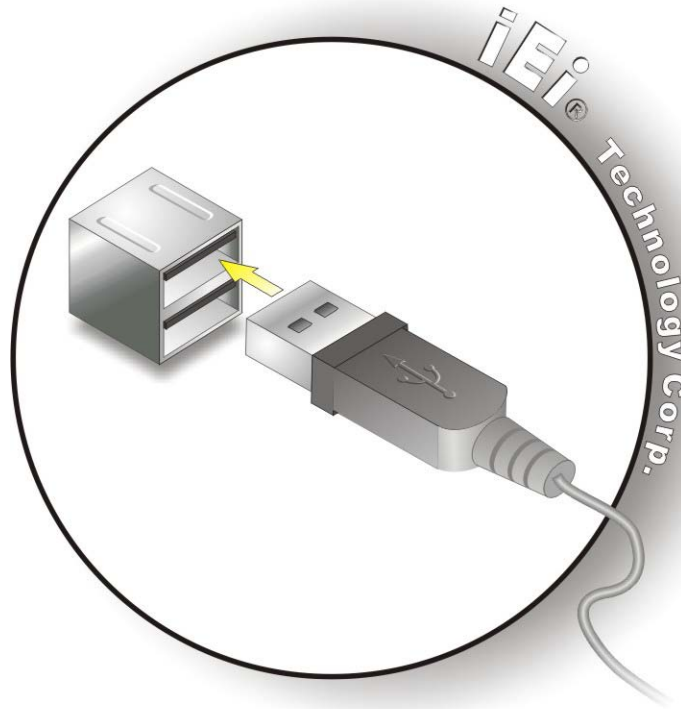

Figure 3-16: USB Device Connection
Step 2: Align the connectors. Align the USB device connector with one of the connectors on the external peripheral interface. See **Figure 3-16**.